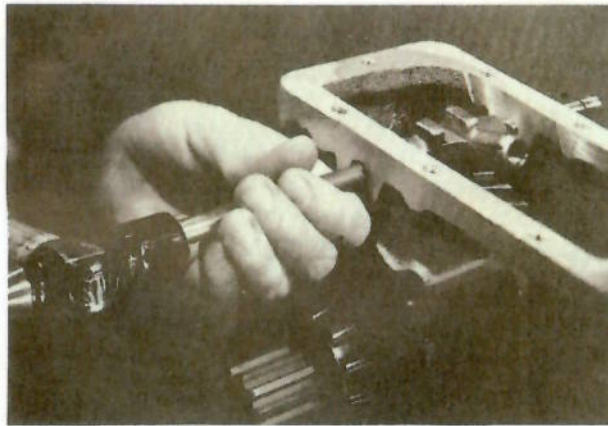

FIG. 11 - REMOVING THE HIGH AND LOW FORK SHAFT FROM THE TRANSMISSION CASE.
21. Use a brass rod, approximate 12 mm (7/16") diameter, and by carefully tapping with a hammer, drift the high/low fork shaft out of the rear of the case, (Fig. 11). Then remove the high/low fork from the case.